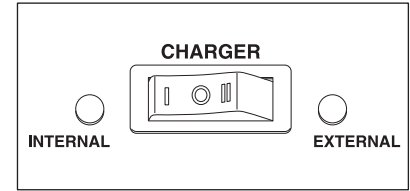

Fig. 4
- Set the rocker switch on the front of the unit to INTERNAL. (Fig. 4)